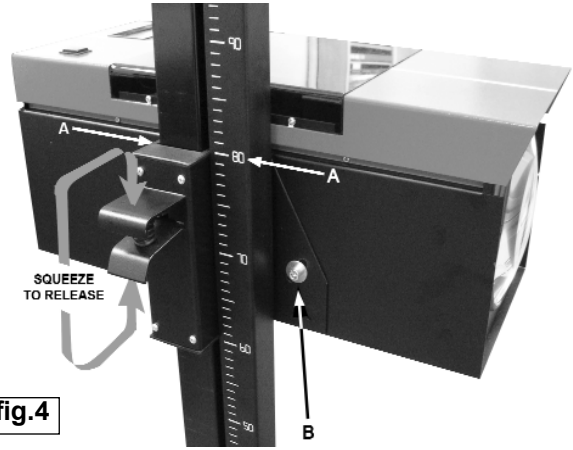

fig.4
5. 1. 3. Measure the height from the floor to the centre of the headlight e.g. 80cm. Release the HBS unit by squeezing the lower lever upwards as shown in fig.4. Slide the unit up or down the column as required until the top surface of the sliding portion is aligned with 80 on the scale printed on the column as shown in fig.4A. Release the locking lever. There is a tolerance level of 30mm.